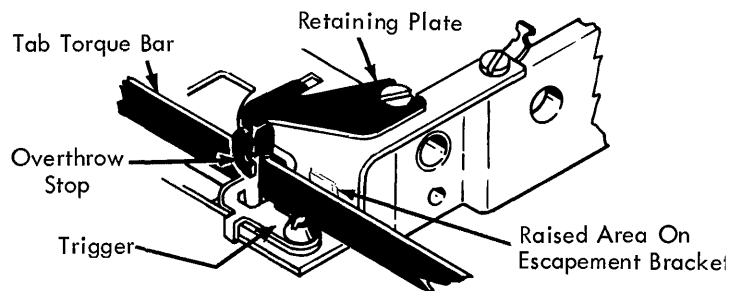

FIGURE 237. Tab Lever Overthrow Stop & Retaining Plate
NOTE: The carrier should be tapped lightly to the left before checking this adjustment. It should also be checked with the carrier in the center of its travel. Be sure that the overthrow stud (Fig. 237) does not interfere with this adjustment.
11. Tab Lever Overthrow Stop and Retaining Plate (Fig. 237) - Replace the tab torque bar overthrow stop and retaining plate and position it so that the overthrow lug